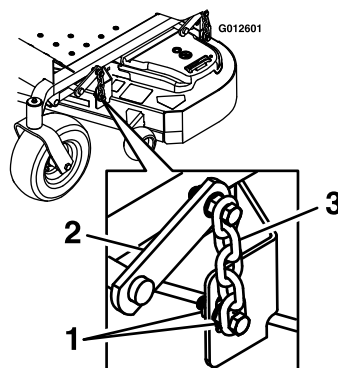

Figure 25
10. Loosen the leveling adjust locking nuts (item 1 Figure 25) on all four corners so that the deck is sitting securely on all four blocks. Make sure that the slack is removed from the deck hangers and the deck lift foot lever is pushed back against the stop, then tighten the four leveling adjust locking nuts.